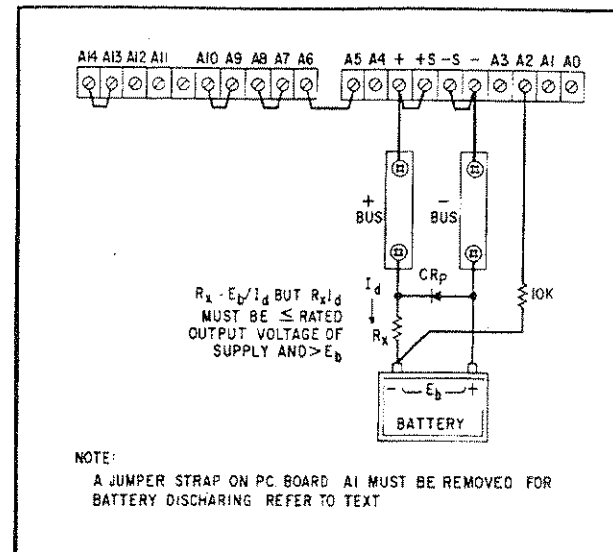

Figure 3-11. Battery Discharging
**3-59** Automatic constant current, unattended discharging of a battery using the SCR-10 Series requires certain changes in the strapping configuration on the rear barrier strip as illustrated in Figure 3-11. Also, a jumper strap on P.C. Board A1 must be removed (see Figure 7-1 for location). Removal of this jumper ensures that the internal programming current does not flow into terminal A2. Before operation, the user should make sure that the interconnecting leads between supply and battery are secure and cannot become opened.
**3-60** The supply initially operates in constant current mode at the value set by the current control. When the battery voltage is high the supply output voltage will be low, and as the battery discharges the supply output voltage increases. A constant voltage is maintained across  $R_X$  (constant current through  $R_X$ ). This condition will prevail until the battery voltage drops to zero. At this point, the supply will switch off and no more current will flow through  $R_X$ . Diode CRp protects the supply against reverse voltages. As shown on Figure 3-11,  $R_X$  must be selected so that its IR drop is less than the maximum rated output of the supply yet greater than the battery voltage.